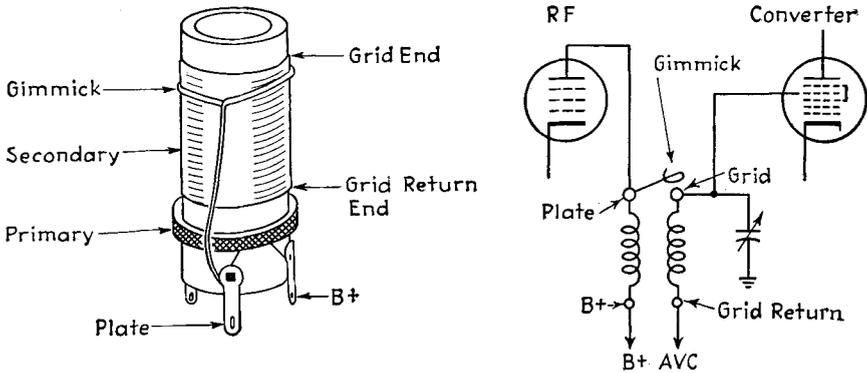

FIG. 14-10. Interstage RF transformer leads.
**How to identify RF transformer coil leads.** For the identification of RF transformer coil leads, see Fig. 14-10 and the following notes.